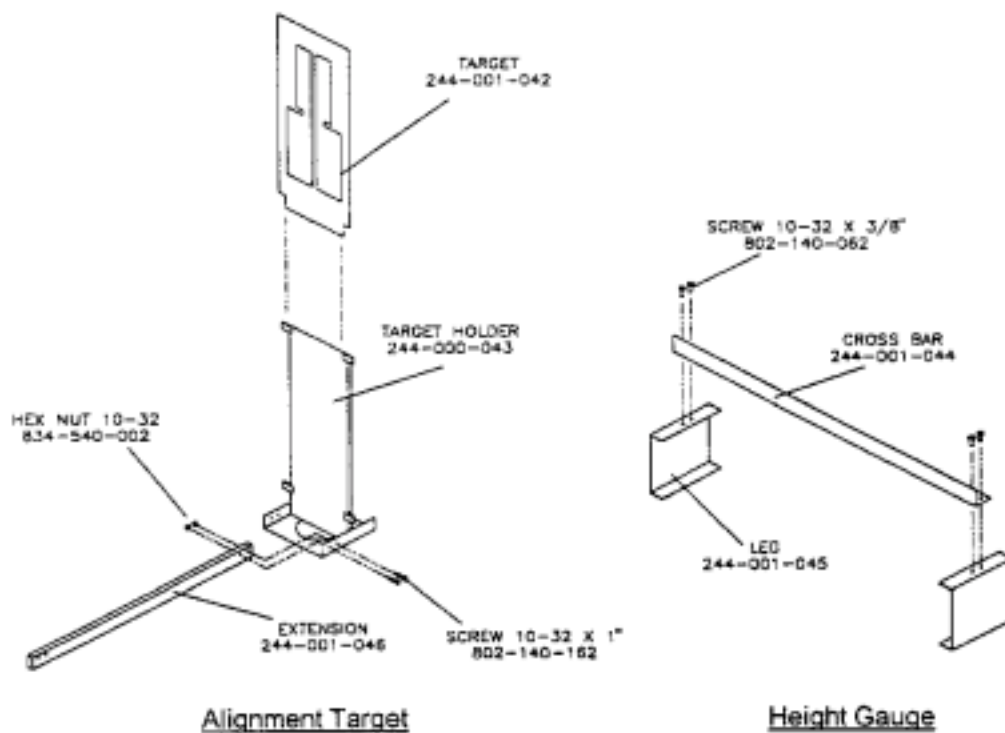

Figure 5-2 Height Gauge and Alignment Targets
1. ASSEMBLE height gage and alignment targets as shown in Figure 5-2.